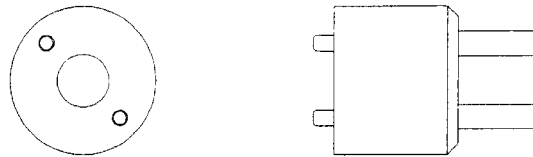

FIGURE 7-8: FORCE FEED LUBRICATOR BEARING HOUSING SPANNER WRENCH (A-8158)
- Force Feed Lubricator Bearing Housing Spanner Wrench (A-8158). See Figure 7-8: on Page 7-5.